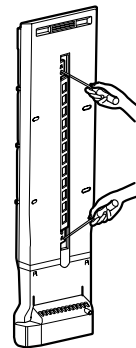

Figure 3
► Right Door -FIG. 3
1. Open the door, remove 1 screw on the top of the hinge cover. Loosen top hinge cover screw (1). Lift up cover (2).
3. Rotate hinge lever (3) clockwise. Lift top hinge (4) free of hinge lever latch (5).
1. Remove the upper and lower caps with a flat screwdriver and remove 2 screws. (Figure 3)